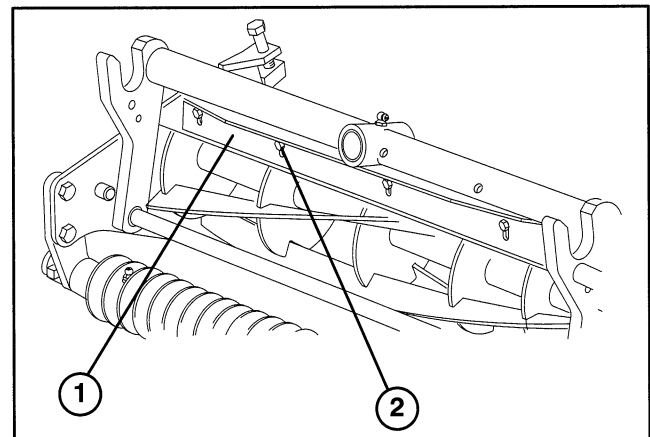

Figure 5
1. Loosen screws securing top bar (Fig. 5). Insert 0.060 inch feeler gauge between top of reel and bar and tighten screws (Fig. 5). Assure bar and reel are equal distance apart across complete reel.